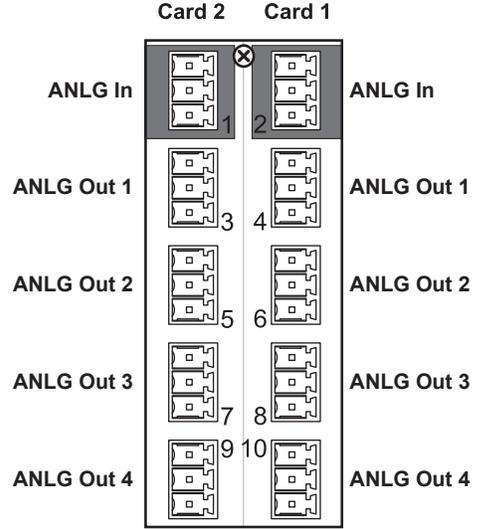

Figure 9 Cable Connections for the 8320AR-043A Rear Module
- 8320AR-043A — Each rear module occupies two slots and accommodates two cards. This rear module provides one AES input and four outputs per card. See **Figure 9**.